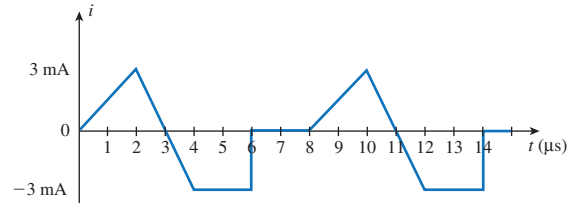

FIGURE 15–80
10. Determine the period and frequency for the waveform of Figure 15–80. How many cycles are shown?